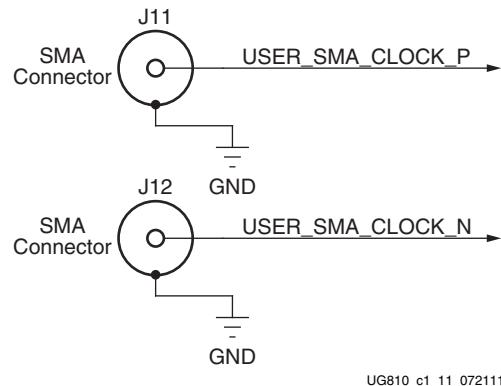

Figure 1-12: User SMA Clock Source
An external high-precision clock signal can be provided to the FPGA bank 15 by connecting differential clock signals through the onboard 50Ω SMA connectors J11 (P) and J12 (N). The differential clock has signal names are USER_SMA_CLOCK_P and USER_SMA_CLOCK_N, which are connected to FPGA U1 pins L25 and K25 respectively. The user-provided 2.5 V differential clock circuit is shown in Figure 1-12.